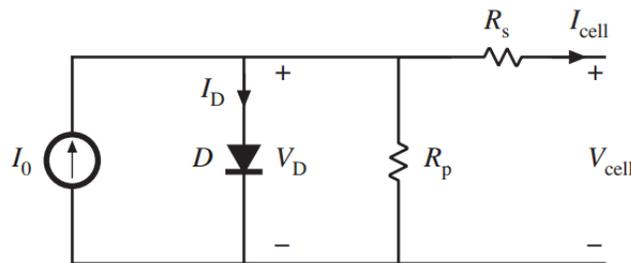

Fig. 3. Equivalent circuit model of a photovoltaic cell.
12. The standard electrical equivalent circuit model for a photovoltaic cell is illustrated in Fig. 3. The current source I_0 models the photo-generated current, and is approximately proportional to the solar irradiation (insolation). The diode exhibits an exponential i - v characteristic, according to the conventional diode equation $I_D = I_{D0}(\exp(\lambda V_D) - 1)$ with $\lambda = q/kT = (26 \text{ mV})^{-1}$. Resistor R_p models current due to leakage and defects, and is usually of large value. Resistor R_s models bulk and contact resistance.
- Find values of I_0 , I_{D0} , R_p , and R_s , such that the model of Fig. 3 predicts the curve you measured in step 5. You may assume that all cells are identical, so that the total panel voltage V_{PV} is equal to 36 times the voltage of one cell V_{cell} . Plot the i - v characteristic predicted by your model, and overlay your experimental data points. Compare the model-predicted open-circuit voltage, short-circuit current, and maximum power point voltage and current, with your measured data. You may use LTspice or MATLAB (both provided on the lab computers) to assist with this part.